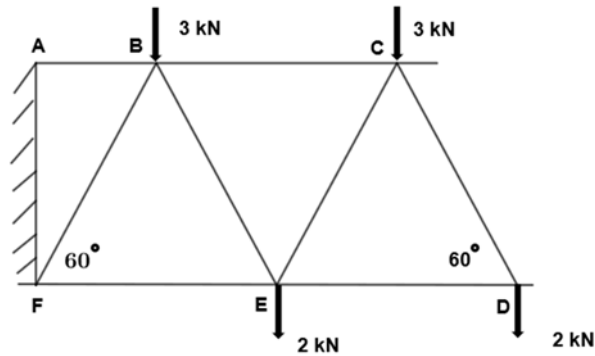

Fig.7
b) The Fig.7 shows a warren type cantilever truss along with the imposed loads. Determine the forces in all the members using tension coefficients.